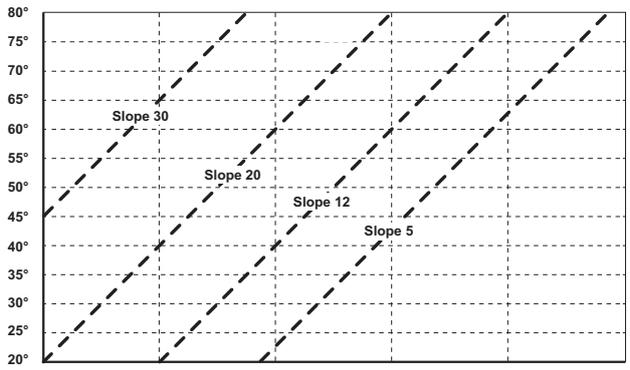
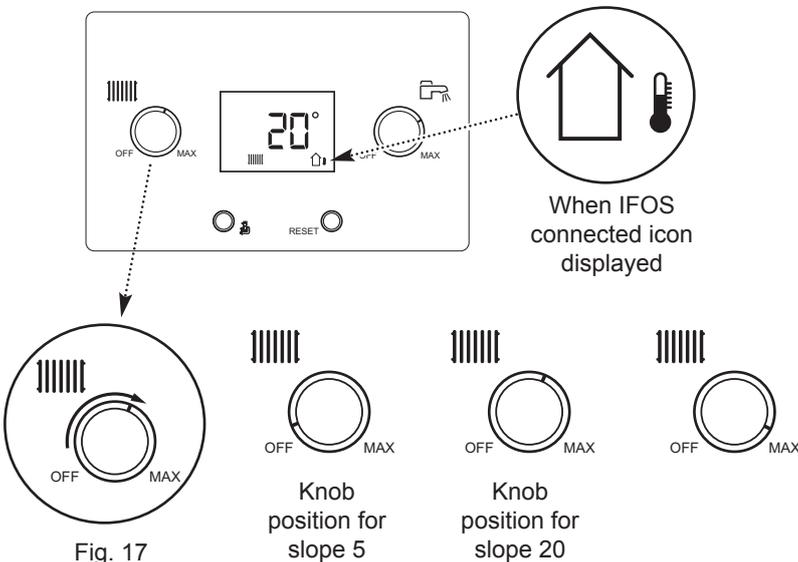

Fig. 16
Fig. 17
5. The Central Heating Control Knob should be turned clockwise until the value which corresponds with the desired slope (as shown on the graph - Fig. 16) is displayed (Fig. 17).
6. Normally the display will show the current temperature of the water in the boiler (e.g. 41°C). As the knob is turned the display will show the selected slope (Figs. 16 & 17).
For example, if Slope '12' is selected (Fig. 16), at an outside temperature of 0°C the boiler flow temperature will be 80°C. Consider the type of dwelling and discuss with the user their requirements to determine the most appropriate curve.